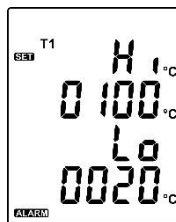

Fig.13
- (1) Press the or button to turn on or off.
- (2) When setting on mode, press the button to set Hi and Lo limit. (see Fig.13)